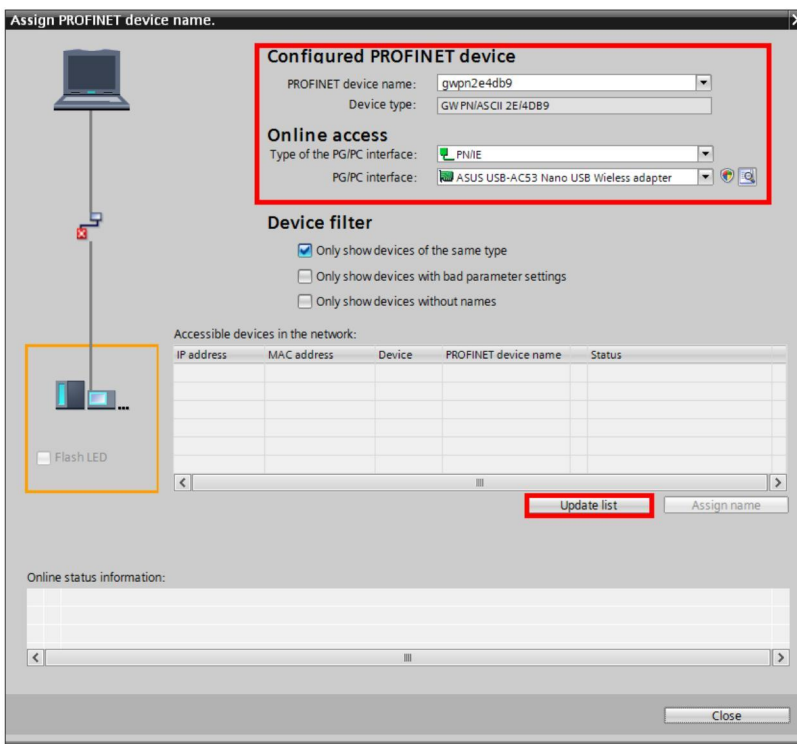

Figure 14 “Assign PROFINET device name” dialog box
7. Click the device icon, and then click the “NAME” button to assign the IP address and Device name to the device, Clicking the “Name” button opens the “Assign PROFINET device name” dialog box (see Figure 14)